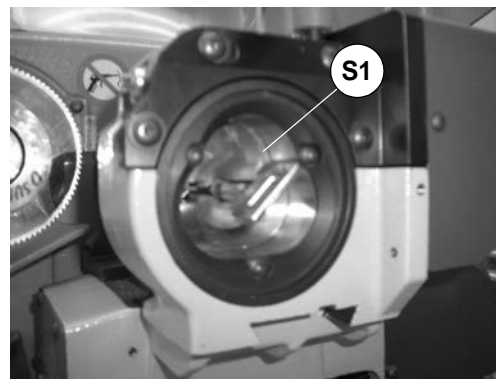
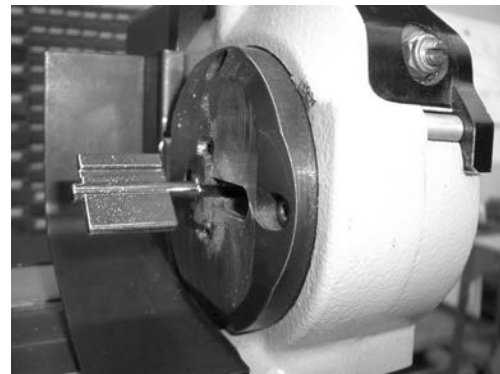
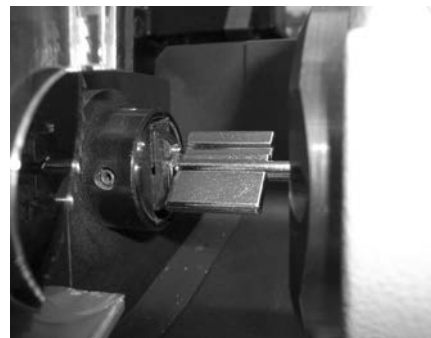

Fig. 56
Fig. 57
Fig. 58
- 4) Fit the key blank into the rotating clamp (S1) from the front, positioning the square stem over the "V" on the grips diagonally so that the left-hand bit is sloping downwards (fig. 56 and fig. 57).
- 5) Close the mobile clamp jaws slightly, using the T wrench already in the screw (V1), without gripping the key stem; move the rotating clamp (G) towards the tailstock, keeping a minimum safety distance of 10 mm between the rotating clamp jaws and the rear limit of the bit. Secure the rotating clamp in position by means of knob (T1).
- 6) Hold the key head with the left hand and push towards the tailstock, making sure that the bits butt up against the grips on the tailstock (K1); simultaneously transfer the 'T' wrench (T4) onto the tailstock screw (V2) and secure the key tip (fig. 58).
- 7) Fit the key blank into the rotating clamp (S1) from the front, positioning the square stem over the "V" on the grips diagonally so that the left-hand bit is sloping downwards (fig. 56 and fig. 57).
- 8) Use the 'T' wrench, already on the screw (V1), to slightly tighten the grips on the rotating clamp, without exerting pressure on the key stem; move the rotating clamp (G) towards the tailstock, keeping a minimum safety distance of 10 mm between the grips on the rotating clamp and the rear end of the bit. Secure the rotating clamp by tightening the knob (T1).